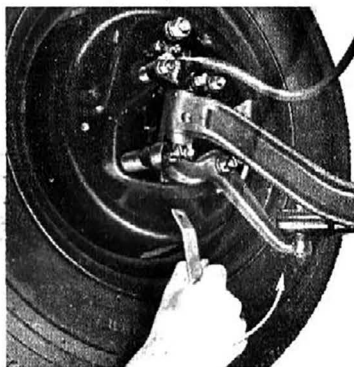

Fig. 50—Adjusting Duo-Servo Brakes
4. Expand brake shoes by turning adjusting screw with suitable tool until a light drag is felt on the brake drum. Refer to Figure 50.
2. Remove adjusting hole covers from front brake flange plates. Expand brake shoes by turning adjusting screw with suitable tool until a light drag is felt on the brake drum (fig. 50).